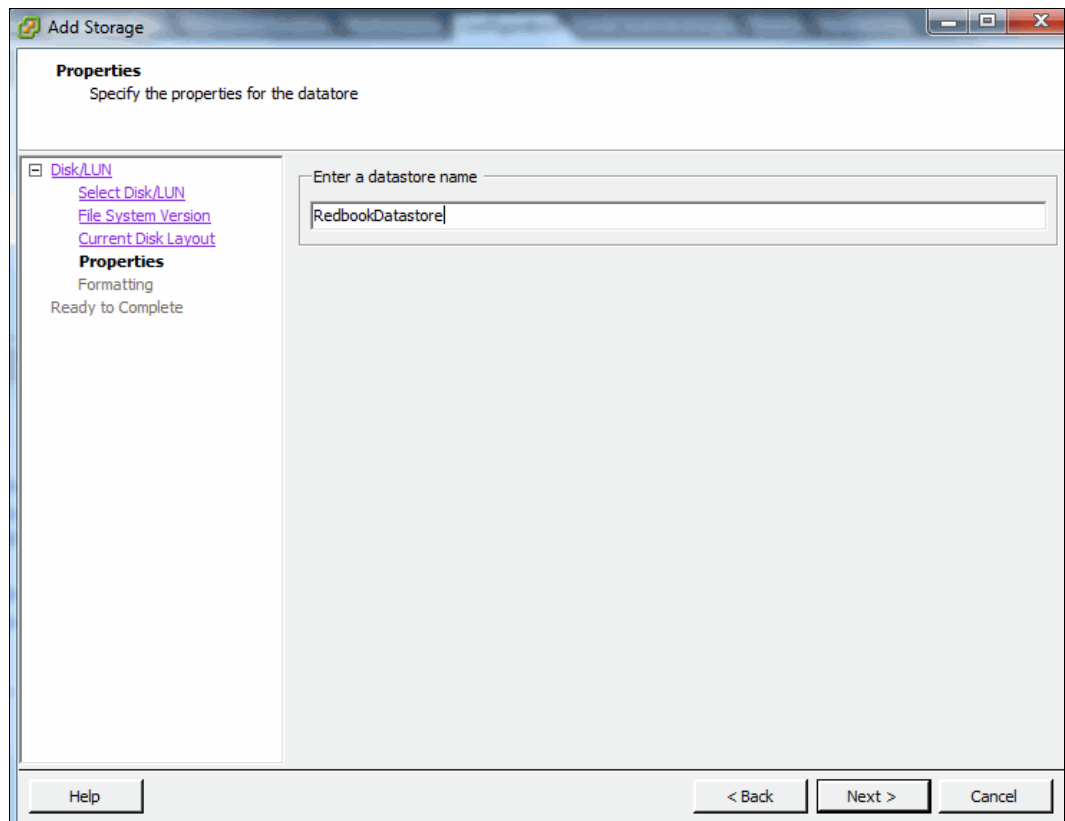

Figure 5-68 Choosing a name for the new data store
6. Enter a name for the data store and click **Next**, as shown in Figure 5-68.